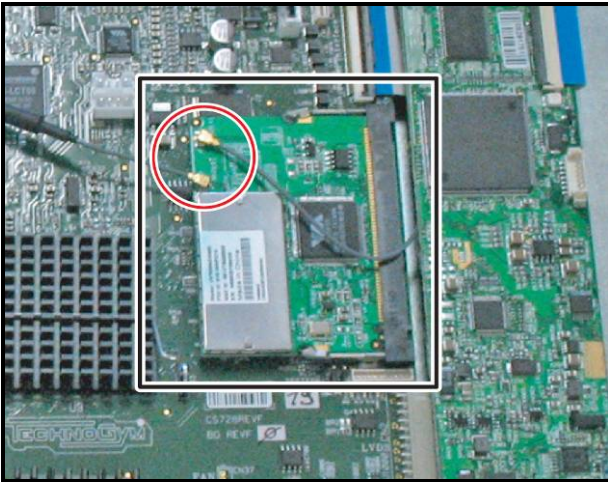
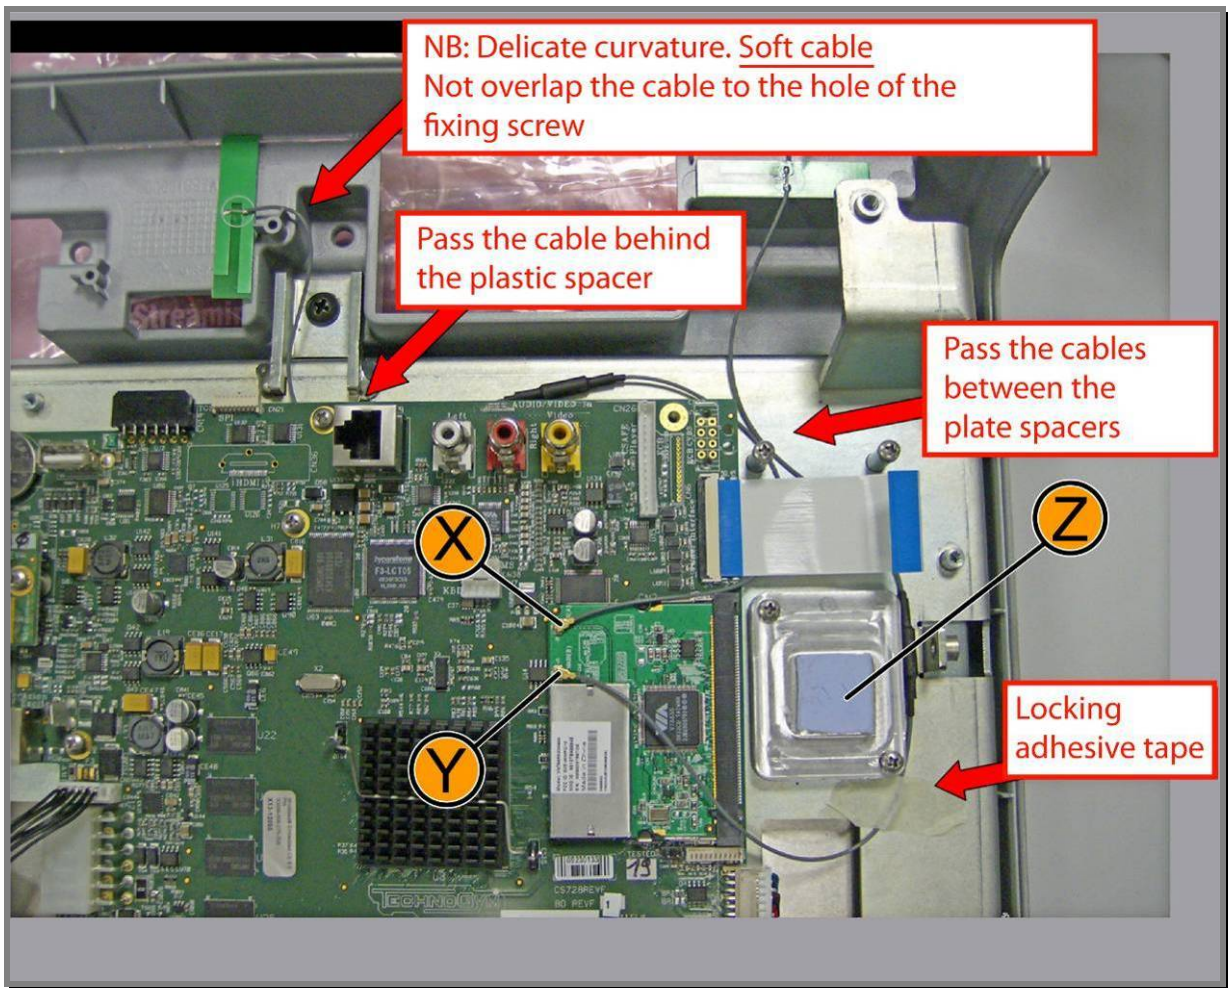

Figure 7.3-5
Figure 7.3-8
**WARNING:** Be extremely careful with the wireless aerial cables and their connectors as they are particularly delicate. In addition, if you need to dismantle, it is important to follow the route of the cables indicated in Figure 7.3-8.
2. Widen the two catches in the direction of the purple arrows (1) so as to be able to lift the Board.
3. Remove the Wireless Board (A) in the direction of the orange arrow (2), as shown in the figure at the side.
**WARNING:** During re-assembly, you must re-fit the aerials in Figure 7.3-5 onto the Wireless Board and then fit the board back into its seat so as to avoid pressing onto the CPU circuits.